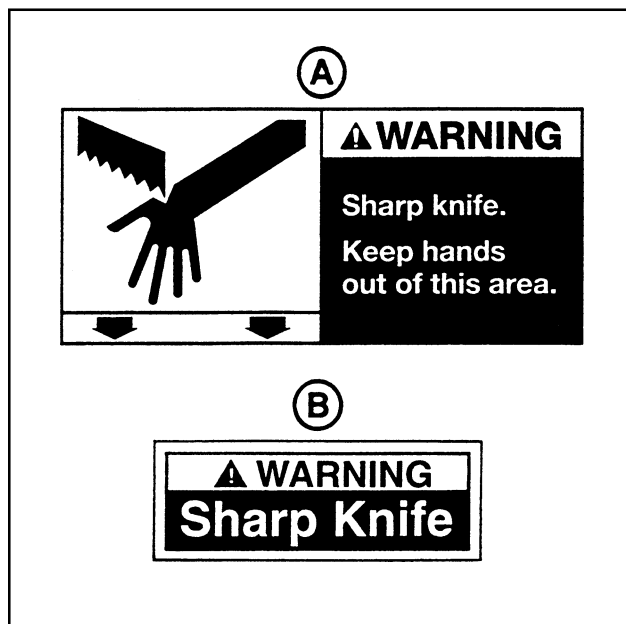

Figure 1-1 – Knife Warning Labels
The "**Warning – Sharp Knife**" label (A), shown in **Figure 1-1**, is attached to both sides of the upper frame at the location of the cut-off knife on the upper taping heads. The "**Warning – Sharp Knife**" label (B), shown in **Figure 1-1**, is attached to the orange cut-off knife guard on both taping heads. The labels warn operators and service personnel of the very sharp knife used to cut the tape at the end of the tape application.